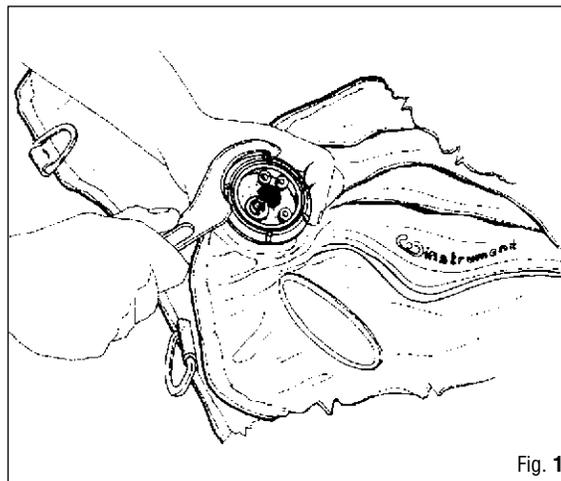

Fig. 1
7. Using a pin wrench (USAG type 282/58-62-65), remove the ring nut (11) (Fig. 1).
WHEN UNSCREWING THE RING, HOLD THE INNER PART OF THE PNEUMATIC INFLATOR IN PLACE TO PREVENT THE INNER SUPPORT FROM ROTATING AND THEREBY DAMAGING THE TUBE INSIDE. (Fig. 1)